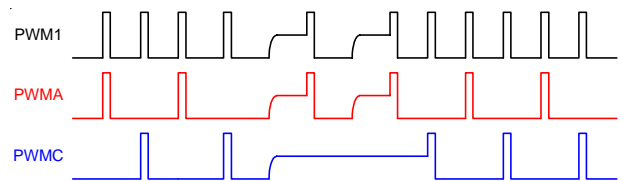
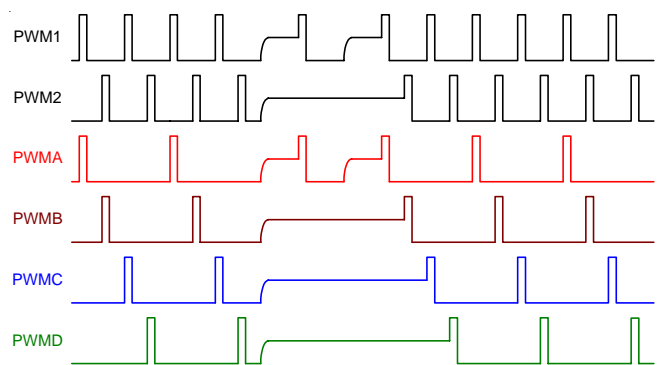

Figure 3. Sequence of PWM1, PWMA and PWMC
Figure 4. Sequence of PWM[1,2] and PWM[A:D]
The uP1911R has two individual sequence circuits to control the PWM input and output sequence. Figure 3 shows the sequence of PWM1, PWMA and PWMC. The PWM1 receives PWM signal from the voltage regulator (VR) controller and outputs the received signal to PWMA or PWMC in an alternating way. That is to say PWMA and PWMC output the received signal in turn. For 2-phase to 4-phase application, the uP1911R receives signals PWM[1,2] from VR controller and outputs them to PWM[A:D]. Therefore, the operation phase number is extended from 2 to 4, and the 2-phase PWM VR controller can be used in a 4-phase VR design. Figure 4 shows the 2-phase to 4-phase PWM extension.